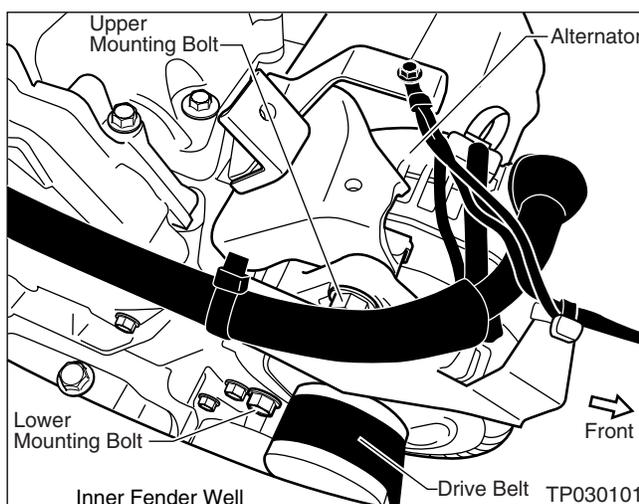

Figure E6
7. Remove all wire harness connections from the Alternator (see Figure E6).
8. Remove the Alternator Belt (see Figure E6).
9. Remove the Alternator Mounting Bolts (see Figure E6).